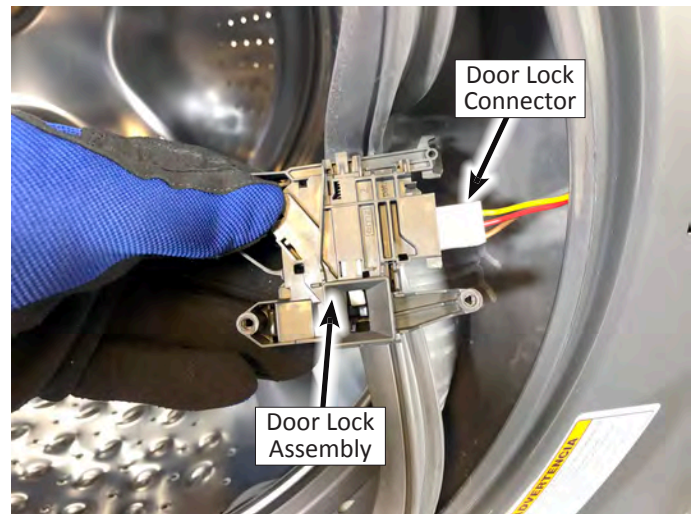

Figure 2
6. Reach in through the opening between the front panel and bellows and pull out the door lock assembly. See Figure 2.